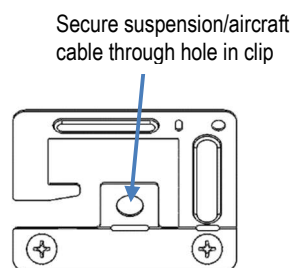

FIG. 10: SUSPENSION MOUNTING
- a. Use hanger wire holes at all 4 corners and appropriately rated hanging cables (not included) to suspend fixture. See figure 10.